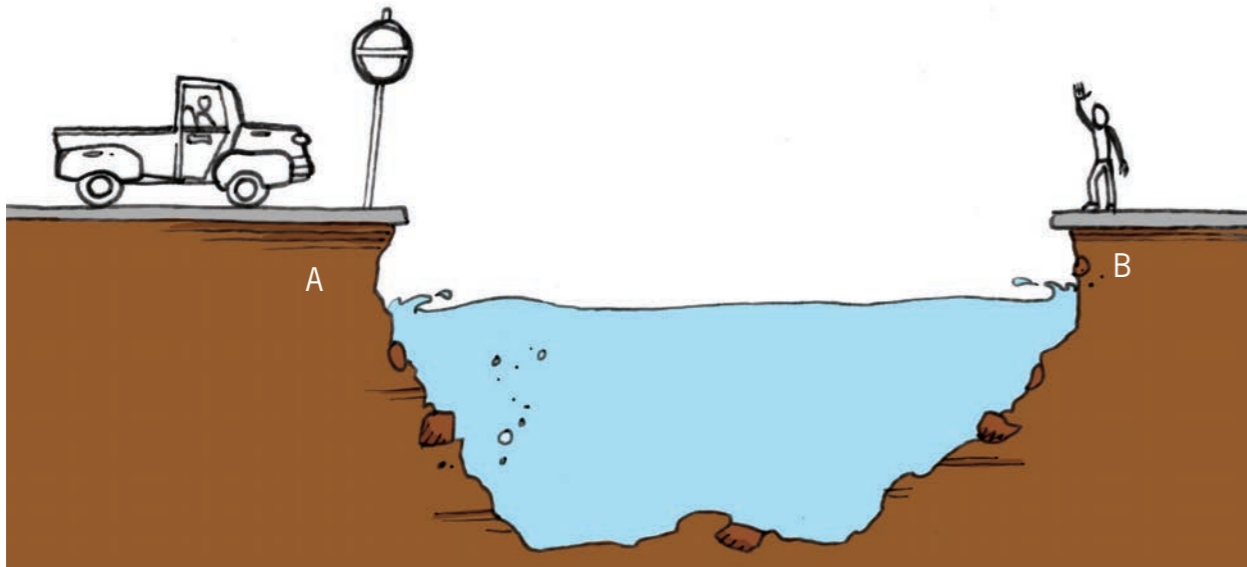

Figure 16
Look at Figure 16. A bridge needs to be built so that people can cross a river. The distance from point A to point B is about 30 metres.
1. Do a quick sketch of Figure 16. Now, show on the drawing what the bridge could look like.